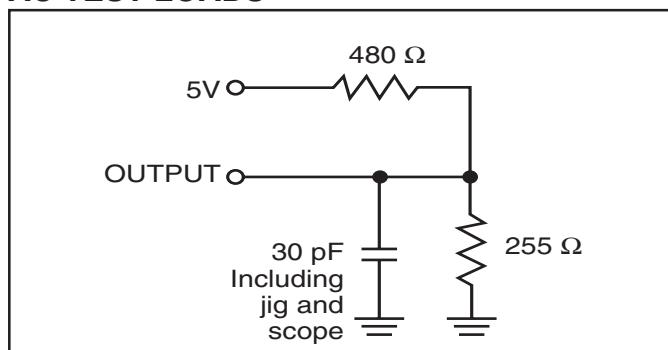

Figure 1
1. Test conditions assume signal transition times of 5 ns or less, timing reference levels of 1.5V, input pulse levels of 0 to 3.0V and output loading specified in Figure 1.
Output Load	See Figures 1 and 2
- Test conditions assume signal transition times of 3 ns or less, timing reference levels of 1.5V, input pulse levels of 0 to 3.0V and output loading specified in Figure 1.